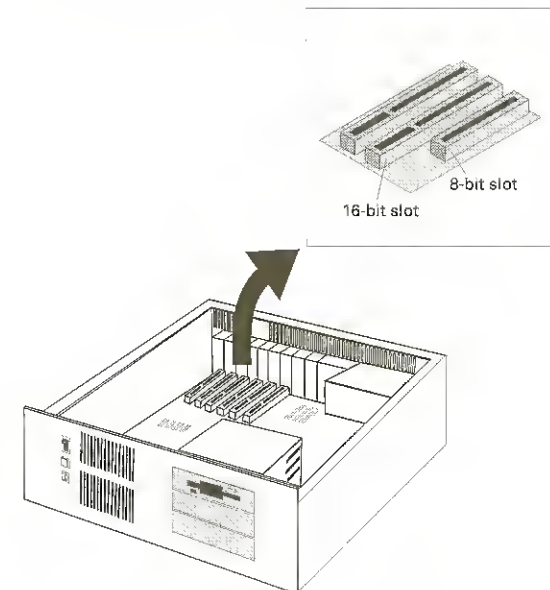

Figure 2-5: Locate free 16-bit slot.
4. Locate a free 16-bit expansion slot (see Figure 2-5) next to your VGA card.